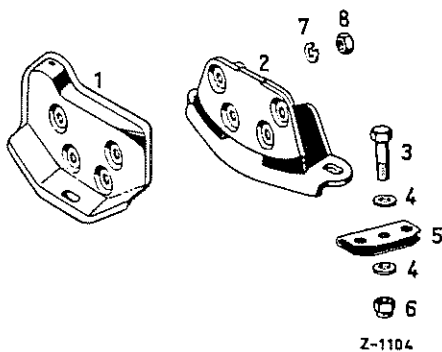

Fig. 24-1/3
On Model 190 SL 3 washers are used on either side, but on this model washer (5) is 10 mm thick instead of 3 mm (see Fig. 24-1/2).
Models 180 b, 180 Db, 190 D, 190 Db have a perforated insert (5) as a standard part (Fig. 24-1/3).